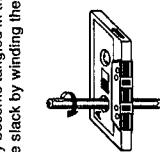

Fig. 2 Turn the pencil to tighten the tape.
- 1) Loose tape may become tangled in the tape transport mechanism. Remove slack by winding the tape with a pencil. (Fig. 2)